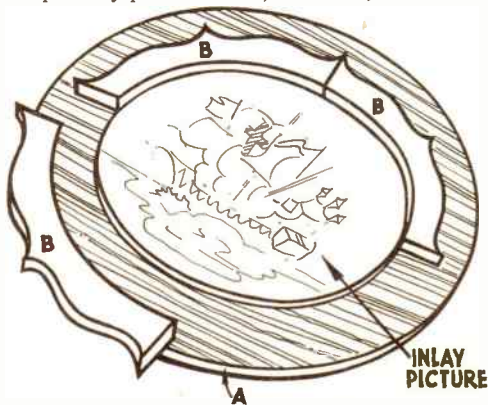

Fig. 1—Adding frame pieces.
Having achieved a satisfactory finish to the picture, the frame pieces (B) can next be added. As shown in Fig. 1 these are glued in position round the picture and weighted down until dry. It may be found desirable to apply the finish to these pieces (B) — by painting, staining and polishing, etc — before adding them to the backing piece, which will also be finished as desired.